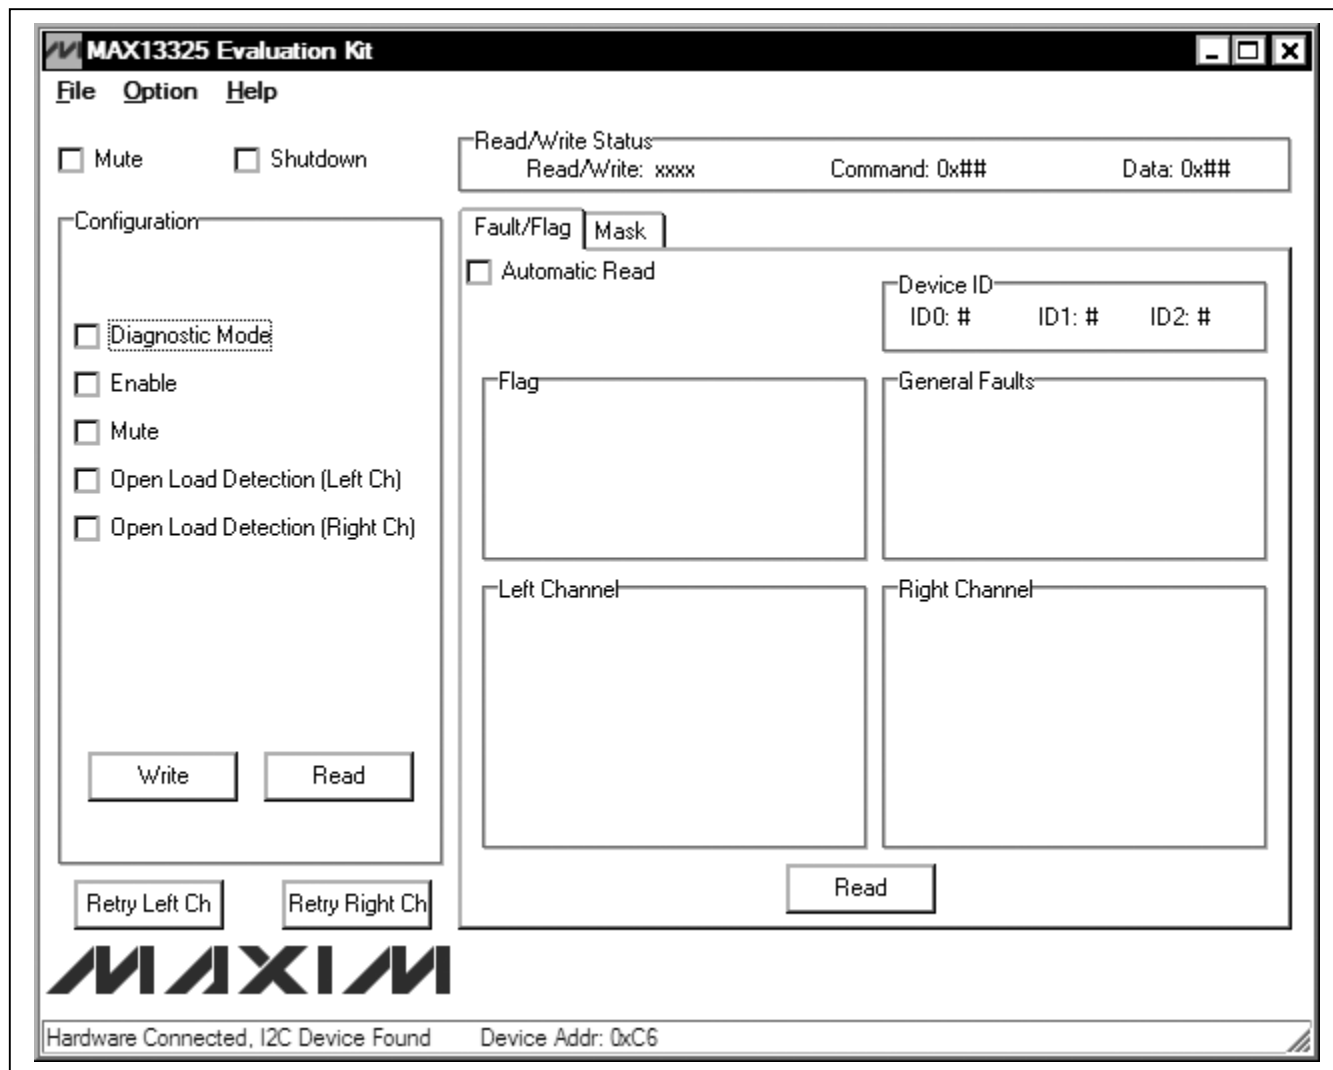
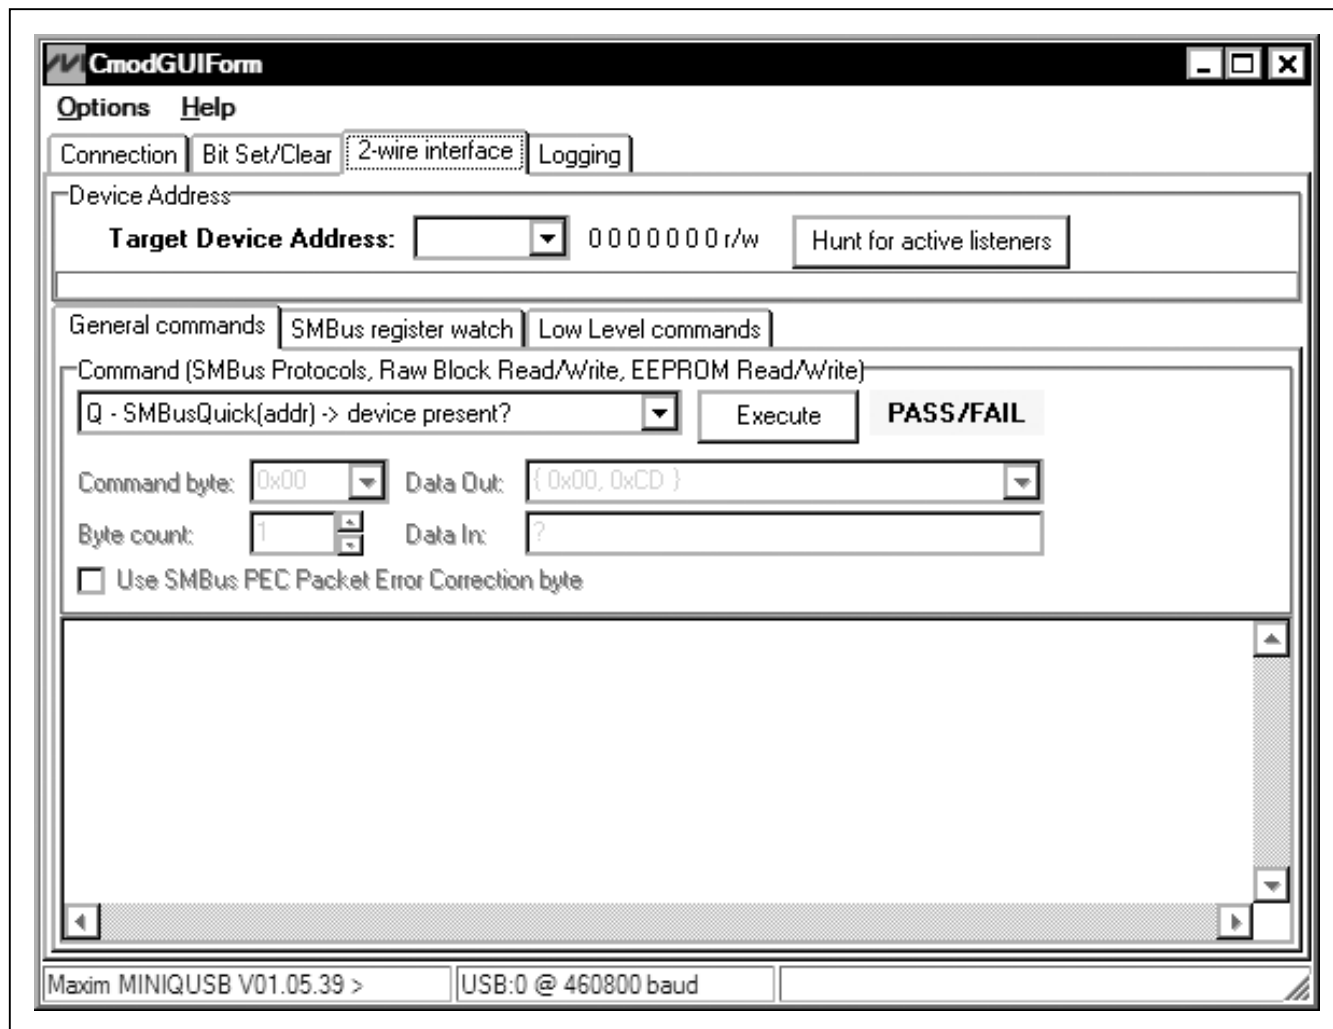

Figure 1. MAX13325 EV Kit Software Main Window (Fault/Flag Tab)
Figure 3. Advanced User Interface Window (2-Wire Interface Tab)
- 17) Start the MAX13325 EV kit software by opening its icon in the **Start | Programs** menu. The EV kit software main window appears, as shown in Figure 1.
The main window of the evaluation software (Figure 1) provides a convenient means to control the MAX13325.
In the **Fault/Flag** tab sheet (Figure 1), press the **Read** button to read the device ID, flag, and all fault registers of the MAX13325. The status of the registers is displayed in the corresponding **Device ID**, **Flag**, **General Faults**,
There are two methods for communicating with the MAX13325. The first is through the windows shown in Figures 1 and 2. The second is through the **Advanced User Interface** window shown in Figure 3. The **Advanced User Interface** window becomes available when selecting the **Option 1 Interface (Advanced User)** menu item and allows execution of serial commands manually.